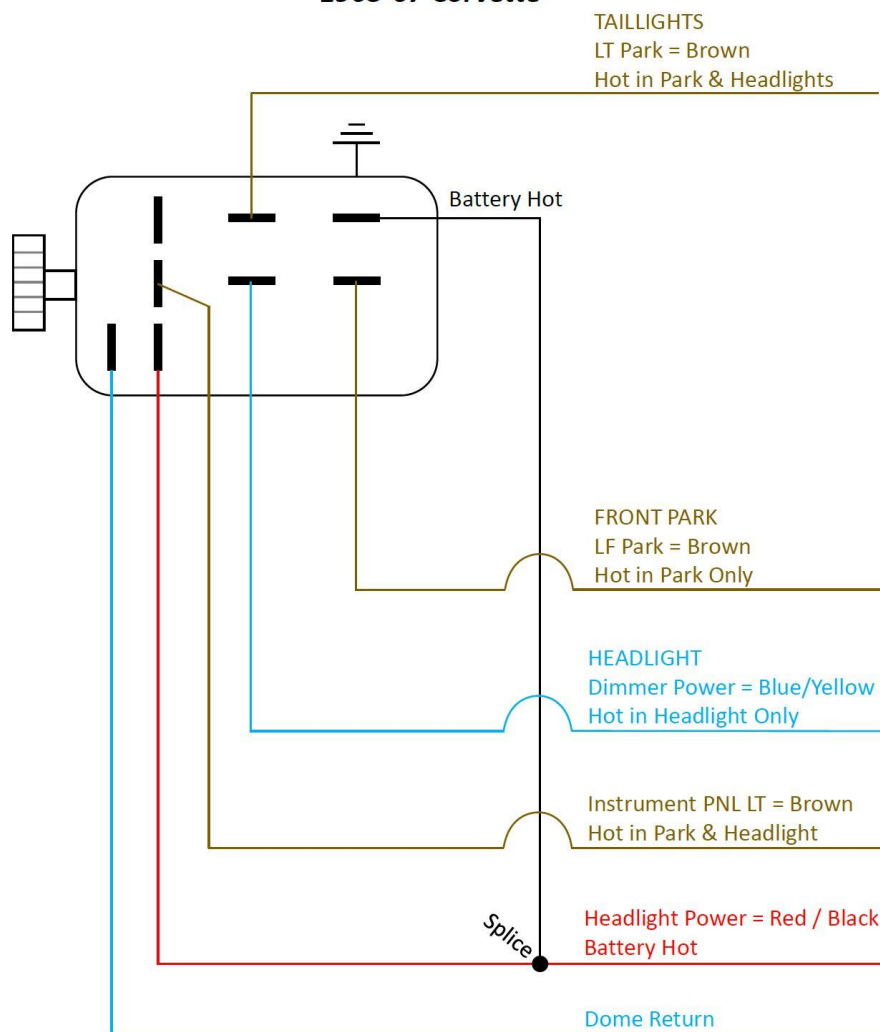

**Figure 9 – End View (Harness Side)
14. For 1963 applications, see Figure 6. For 1964 to early 1965 applications, see Figure 7. For late 1965 to 1966 applications, see Figure 8 and for 1967 applications, see Figure 9.